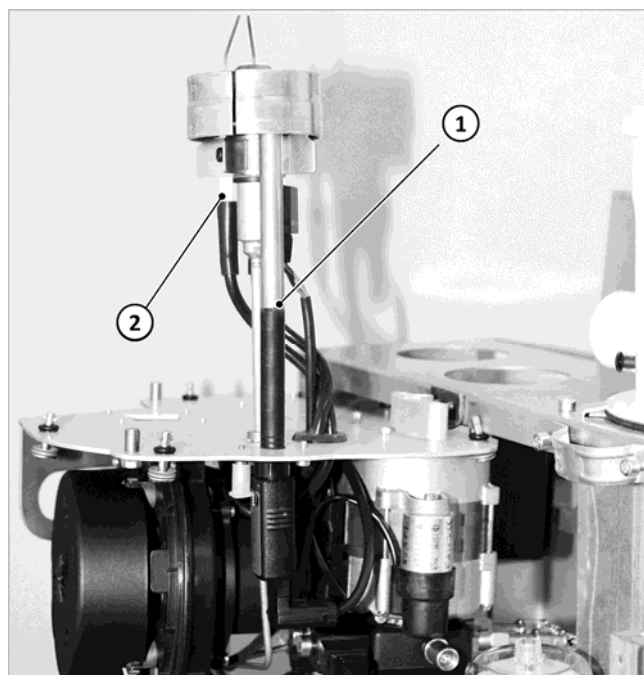

Fig. 32: Attaching the burner to the console
1. Remove the viewing sleeve; see → fig. 32 (1).